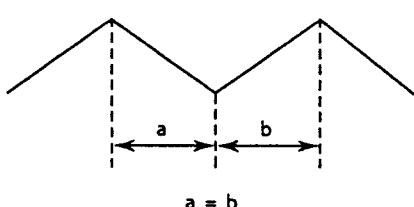

Fig. 4-17
- Adjust VR10 so that the pulse duty becomes 50%. (The duty a and b become equal.) (Fig. 4-17)